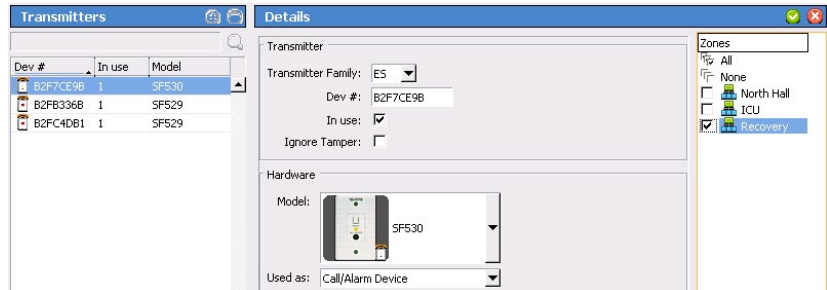

Figure 26: Add Transmitters to Zones
1. Select **Transmitters** in the page selection pane of the Config Tool as shown in Figure 26.